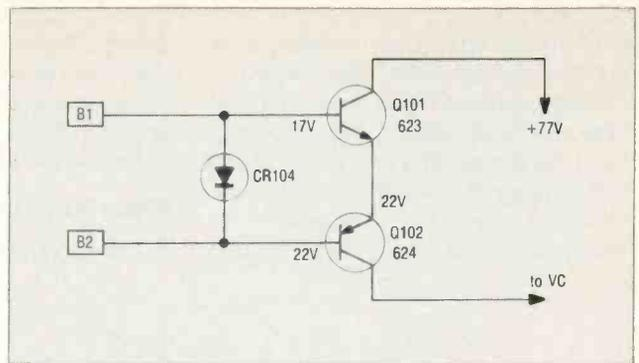

Fig. 4—Intermittent vertical sweep in a RCA CTC49 chassis.
transistors were those thin, flat types and these transistors are noted for internal intermittent conditions (Fig. 4). Sometimes, by using an insulated tool, you may move one of the transistor terminals and cause the sweep to collapse. In other circuits, you may end up replacing both transistors. When pushing around on Q101's terminals (623) the vertical sweep became intermittent. After removing the suspected transistor it was tested in a beta transistor tester and we found it opened when moving the emitter element. Sometimes, these transistors will open up when sprayed with a coolant. With the power output transistor out of the circuit, check CR104 for open or leaky conditions.